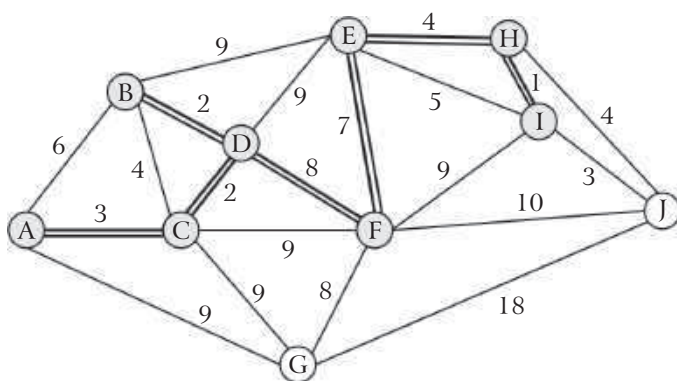

Fig. 8.13
Step 7: The node $\textcircled{I}$ of the set $\bar{C}$ is nearest to the node $\textcircled{H}$ of the set C . So we choose this node $\textcircled{I}$ and transfer it from the set $\bar{C}$ to the set C and choose the branch joining these two nodes $\textcircled{H}$ and $\textcircled{I}$ for M.S.T.. These are shown in fig. 8.13.